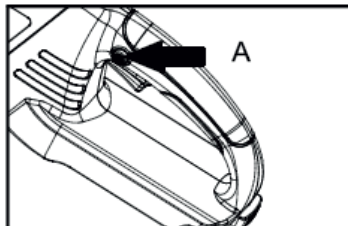

Fig 8C
3. With your RIGHT THUMB, push the Safety Lock-off button (A), and at the same time squeeze the trigger. To stop the saw, release the trigger. (Fig 8C)